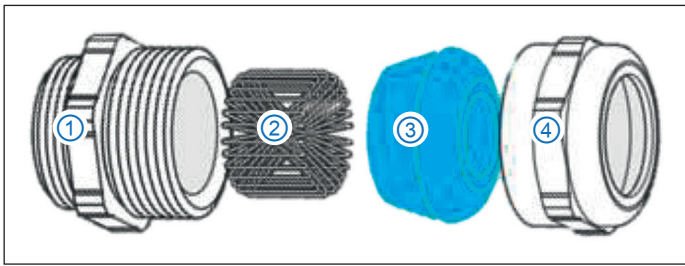

Fig. 7-1: Components of a cable gland with triangular spring 'TRI' contacting the braided shield
The triangular springs (Fig. 7-1, ③) are needed to establish contact between the braided shield of the HV power cable and the module housing. If no contact between braided shield and housing is required, these springs can be omitted.